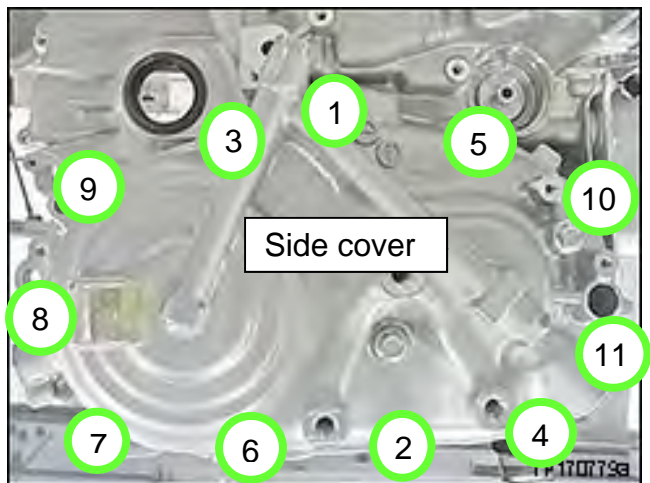

Figure 209
184. Install eleven (11) new side cover bolts, and then torque all of the side cover bolts to the specified torque in the sequence shown in Figure 209.